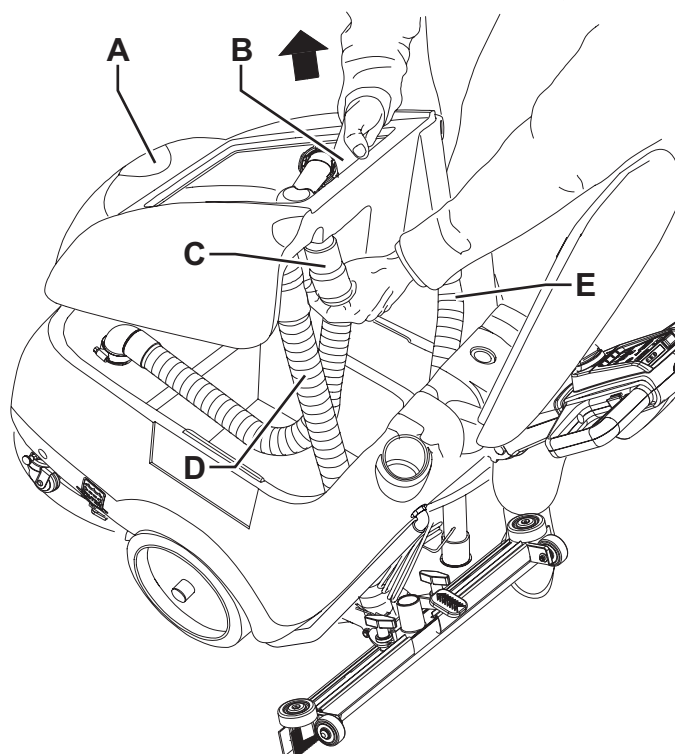

Figure 2
7. Disconnect the vacuum hose (22) from the squeegee (11).
8. Disconnect the recovery water drain hose (16) from the bracket (17).
9. Open the cover (6).
10. Grasp the recovery tank (A, Fig. 2) in the area (B) and slightly raise it.
11. Disconnect the vacuum hose (C) from the tank, then remove the tank (A) with the hoses (D) and (E).
12. Install the batteries on the machine according to the diagram (51).
13. Install the tank (A) by performing steps 7 to 11 in the reverse order.